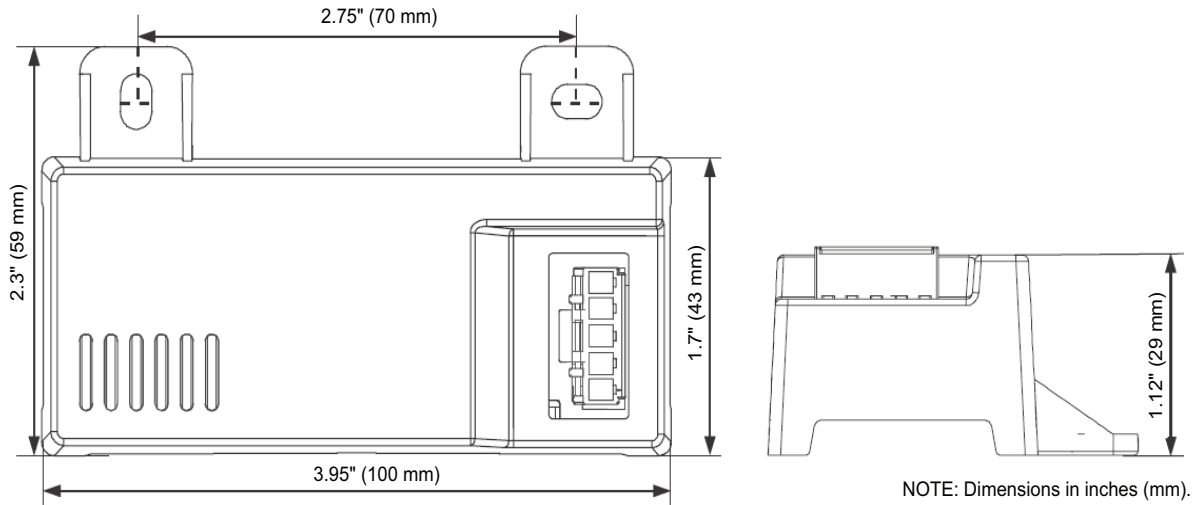
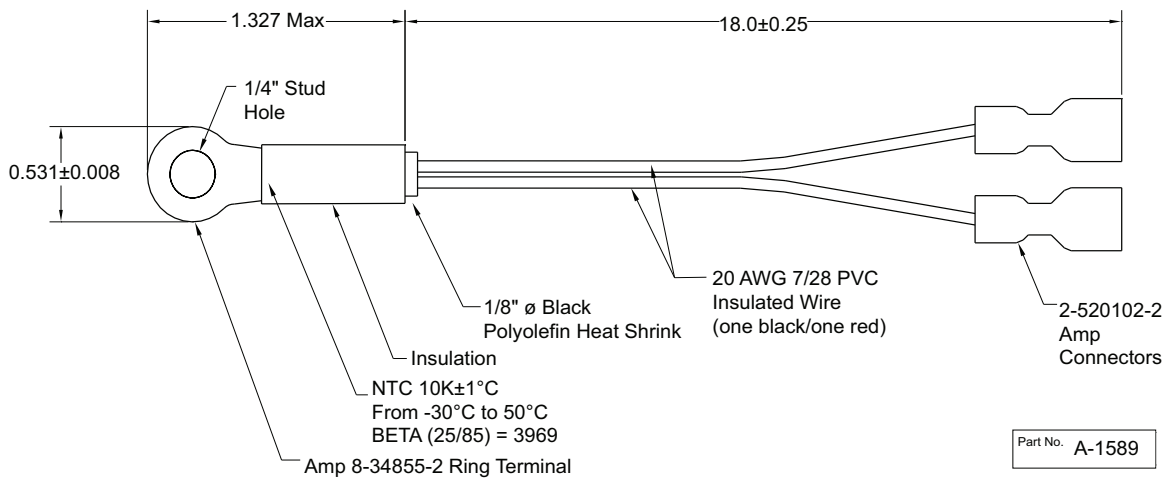
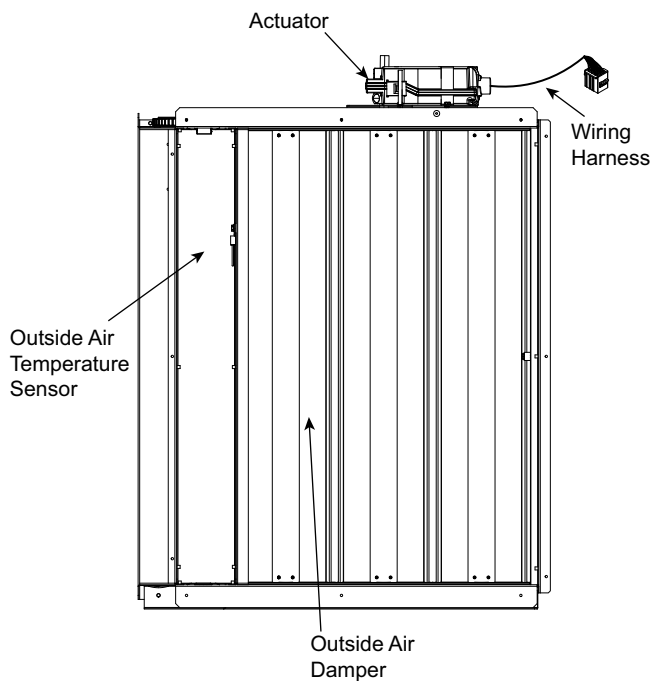

Fig. 87 – HH57LW001 Dimensional, Connection and Switching Information
Fig. 88 – HH79NZ039 Dry Bulb and Mixed Air Sensor Wiring
Fig. 89 – EconomizerONE Component Locations (CRECOMZR108A00 Shown)
When using the HH57LW001 enthalpy sensor (see Fig. 87) for outside air changeover, the existing HH79NZ039 dry bulb sensor (see Fig. 88) must be removed. The enthalpy sensor will be mounted in the same location as the dry bulb sensor (see Fig. 89). When the enthalpy sensor's OA (Outside Air) temperature, enthalpy, and dew point are below their respective setpoints, the outside air can be used for free cooling. When any of these are above the setpoint, free cooling will not be available. Enthalpy setpoints are configurable and create an enthalpy boundary according to the user's input. For additional details, see Fig. 90-91 and Table 29.
The optional enthalpy control sensor (P/N: HH57LW001) communicates with the POL224 economizer controller using the 5-wire harness, 48TC005213. The HH57LW001 sensor can be used as a single outside air enthalpy, a differential return enthalpy, or a differential return temperature sensor. Refer to the base unit control wiring diagrams found earlier in this book to wire the HH57LW001 enthalpy sensor for each option. Use Fig. 87 and Table 31 on page 67 to locate the wiring terminals for each enthalpy control sensor.
Economizers are shipped standard with an HH79NZ039 outside air dry bulb sensor (see Fig. 88). System default setting (high temp limit) is 63°F (17°C) and has a range of 48°F to 80°F (9°C to 27°C). Sensor is factory installed on economizer.
If installing the optional HH57LW001 enthalpy sensor, the HH79NZ039 dry bulb outside air sensor must first be removed. Wire sensor to harness 48TC005213 and the (5) wires from the harness to the EconomizerONE harness in the return air chamber. Harness 48TC005213 has a 5-pin plug that connects directly to the HH57LW001 enthalpy sensor. Refer to the base unit control wiring diagrams earlier in this book for wiring connections. Refer to Fig. 87 and Table 31.